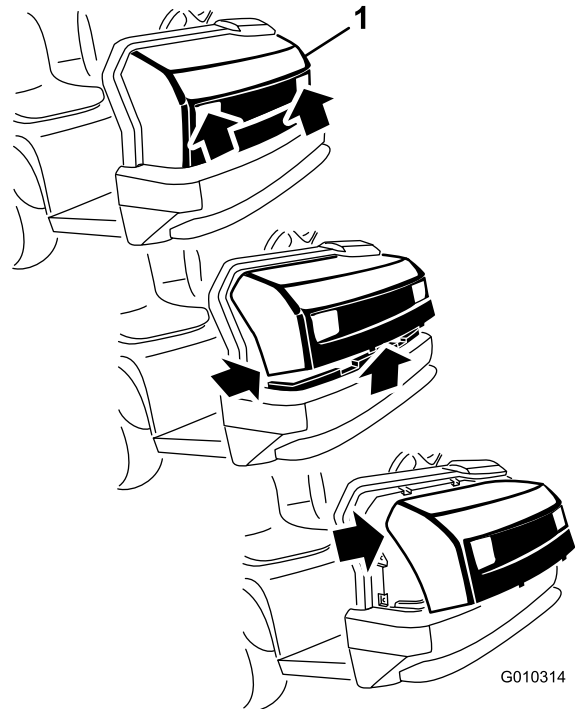

Figure 27
1. While grasping the hood in the headlight openings, lift up the hood to release the lower mounting tabs from the frame slots (Figure 27).
2. Pivot the bottom of the hood upward until you can pull the top mounting tabs from the frame slots (Figure 27).
3. Pivot the top of the hood forward and unplug the wire connectors from the headlights (Figure 27).
2. Insert the top mounting tabs into the frame slots (Figure 27).
3. Insert the lower mounting tabs into the frame slots (Figure 27).